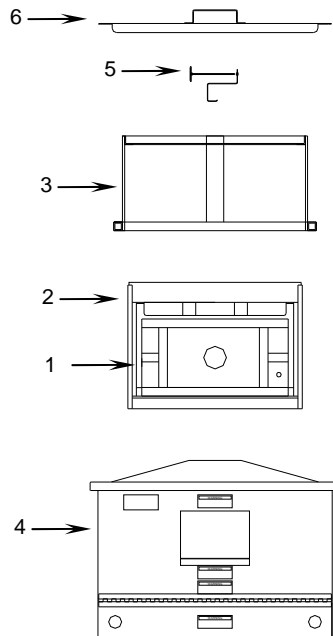

Figure 45. Packing Sink Assembly.
- b. Place the burner unit (**Figure 45, Item 1**) of each sink assembly into the burner rack (**Figure 45, Item 2**).
- c. Slide the base racks (**Figure 45, Item 3**) down over the burner racks (**Figure 45, Item 2**).
- d. Place each of these assemblies into a sink assembly (**Figure 45, Item 4**).
- e. Wrap each thermometer and its bracket (**Figure 45, Item 5**) in barrier material and place one wrapped thermometer assembly on top of each burner unit.
- f. Place the sink covers (**Figure 45, Item 6**) on the sink assemblies.